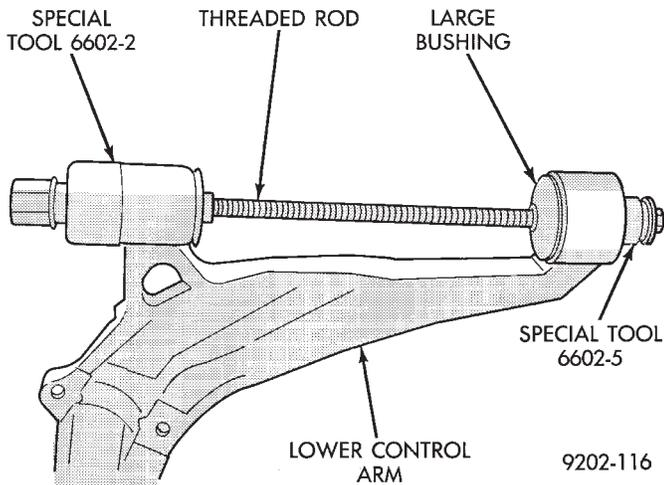

Fig. 4 Tool Assembled For Bushing Removal
(3) Install the tools assembled in step 2 above into the large bushing of the lower control arm (Fig. 4). Then assemble the remaining Special Tools, Cup 6602-2, thrust bearing, washer and long nut onto the threaded rod (Fig. 4) from Bushing Remover/Installer, Special Tool 6602.
(4) Hold the long nut stationary. Using a deep socket turn the long threaded rod until the large pivot bushing is pushed out of the lower control arm.